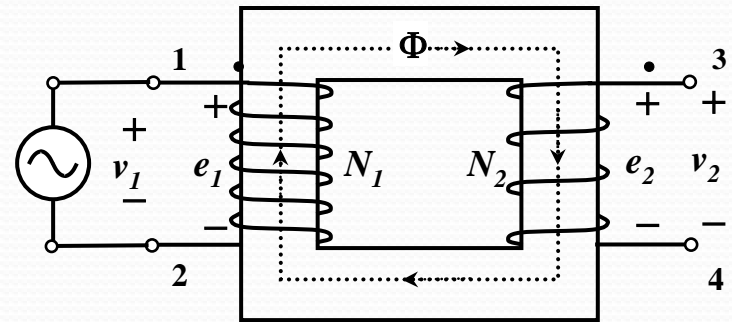

Figure 4.1 Basic features of a transformer
- The simplest transformer consists of two coils wound on a common magnetic core which are coupled by a common magnetic field as shown schematically in Figure 4.1.